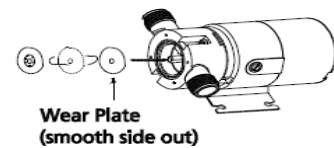

Figure 5 – Install Wear Plate
- Reinsert the elliptical wear plate in the body bore with the unworn surface toward the impeller (See Figure 5).